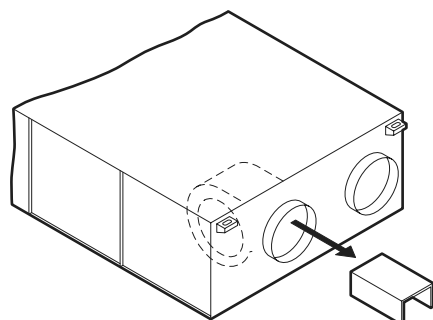

Fig. 3-70b
1. Remove the pads on the fan discharge side through the discharge opening. (Fig. 3-70b)